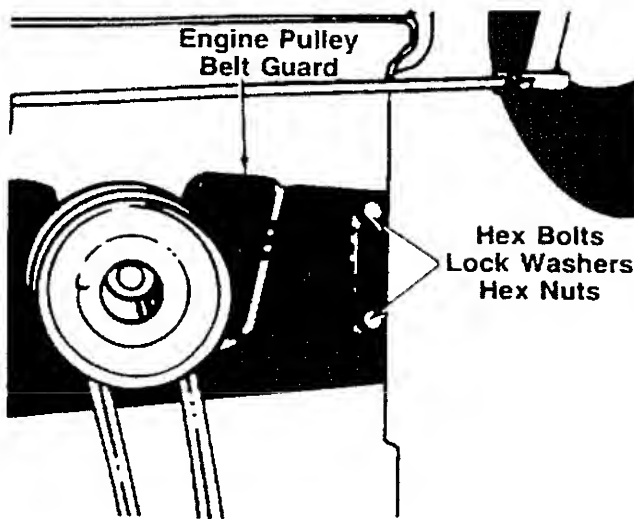

FIGURE 23.
5. Remove the two bolts, lock washers and nuts on each side of the frame which hold the engine pulley belt guard to the frame. See figure 23.